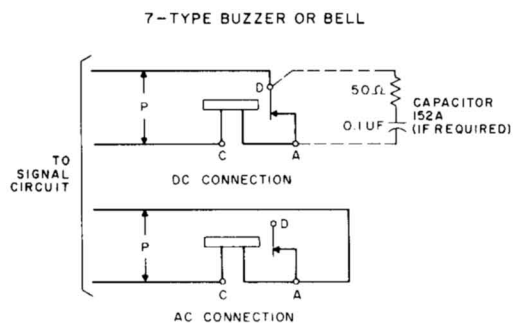

Fig. 23—AC and DC Connections
6.05 Connect 7-type buzzers or bells as shown in Fig. 23.
6.06 Where radio frequency induction is caused by a sparking buzzer or bell contact, operating power should be ac and connections should be to the ac terminals. A 152A capacitor should be used across buzzer contacts when power supply is dc (Fig. 23).